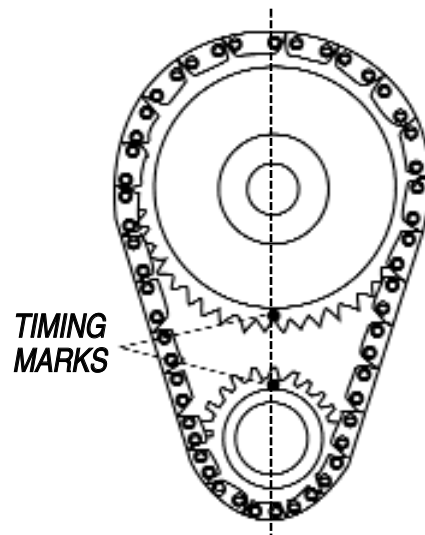

Figure 2- Timing Chain Sprocket Alignment
13. Rotate engine until timing marks are aligned as shown in Figure 2.
**CAUTION:** Use Edelbrock Performer-Link True Rolling Timing Chain and Gear Set #7804. Do not use late model timing chain & gear sets that are designed in a retarded position and are not recommended for this camshaft installation. Edelbrock Timing Sets feature three keyways for specific timing selection. Use locking compound material on the bolt threads holding timing gear to cam. Torque to factory recommendations specified in motor repair manual. Install camshaft with timing marks lined up as recommended by factory specifications. See Figure 2. When using Performer-Link Timing Chain and Gear Sets with Edelbrock cam and lifter kits, straight up timing alignment is achieved. If any other timing gear set is used, it is necessary to check
- After the cam is installed and timed correctly (see Figure 2), it will be necessary to check each pushrod for correct lifter preload.